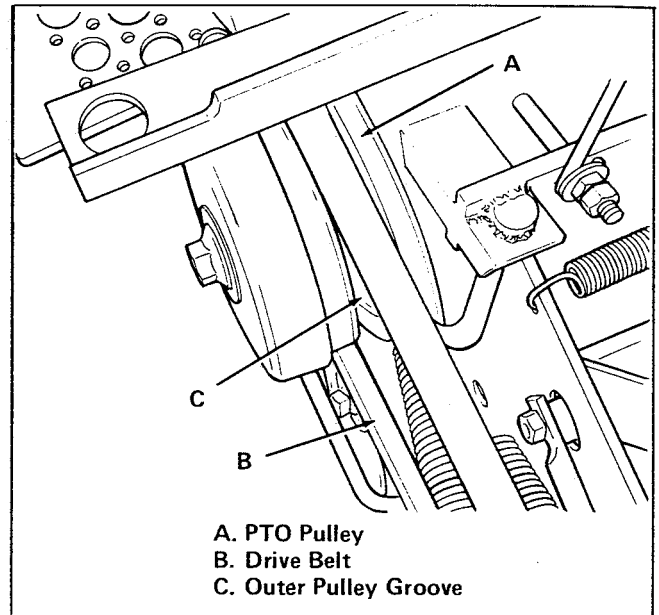

Figure 5. Install Drive Belt on PTO Pulley
12. Raise seat deck of tractor. Pull tiller drive belt (item B, figure 5) forward through idler pulleys and slip it into outer groove (item C) of PTO pulley.
4. Remove drive belt from drive pulley (item C) and tractor PTO pulley (item A, figure 5).